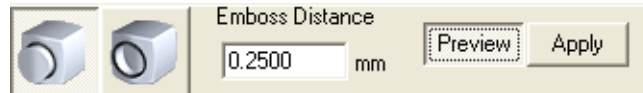

FIGURE 2-16. Raise option is selected in dynabar and Emboss Distance is set to 0.25
- 10 Before embossing the area, set the dynabar option to “Raise” clay and set the Emboss Distance to 0.25 and click Apply (Figure 2-16).